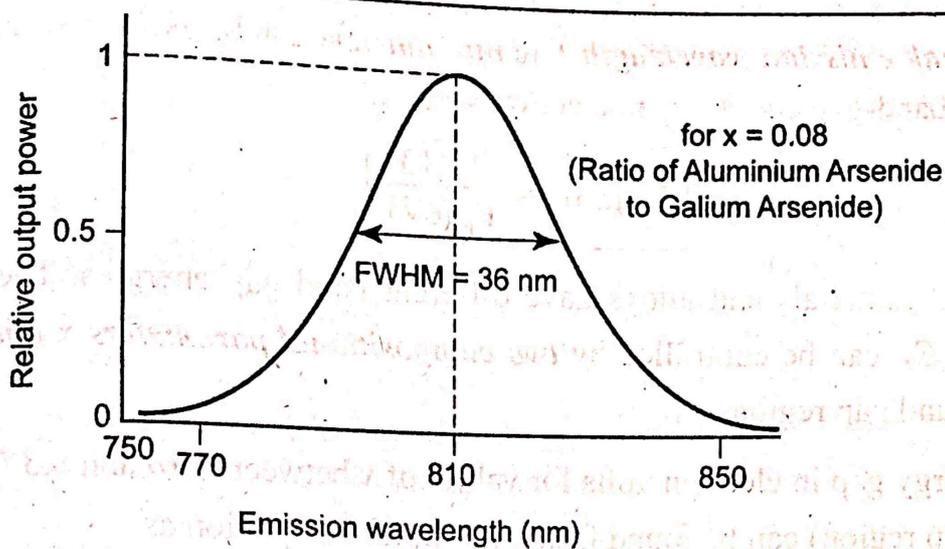

Fig 6.9 Spectral emission of  $Ga_{1-x}Al_xAs$  LED
- ♣ In the above Fig 6.9,  $x = 0.08$ . The width of the spectral pattern at its **half-power point** is **36 nm** and the **peak output power** is obtained at **810 nm**.